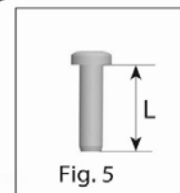
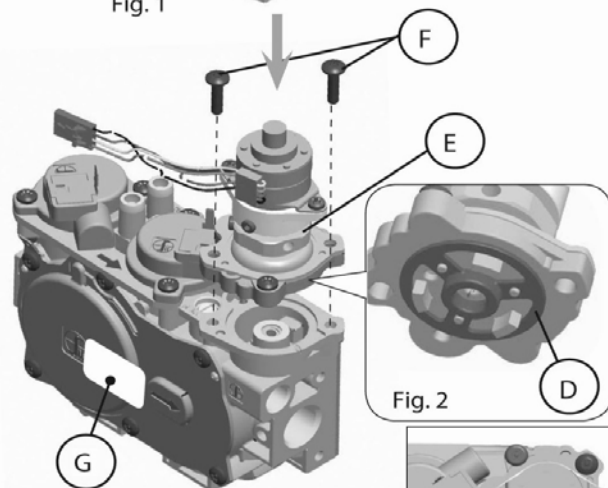
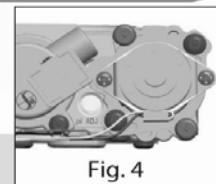

Fig. 5
Fig. 3
Fig. 4
- 4 Install the new STEPPER MOTOR pressure regulator assembly, as shown in Fig. 3 and Fig. 4. Use the supplied screws (F), M4 x 0.7 threaded, length of thread  $L=(16\text{ mm} + 0 - 0.5\text{ mm})$ , steel material, resistance class 8.8 (see Fig. 5).
- 6 Install the enclosed identification label (G) to the valve body where it can be easily seen.